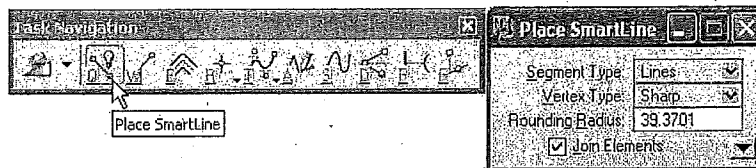

Figure P5-6 Invoke Place SmartLine and set the Chamfer Offset to 3
STEP 1: Invoke Place SmartLine from the Task Navigator tool box (active task set to Linear), as shown in Figure P5-6. In the Tool Settings window, set the **Vertex Type** to **Chamfered**, and key-in **3** in the **Chamfer Offset** text field.